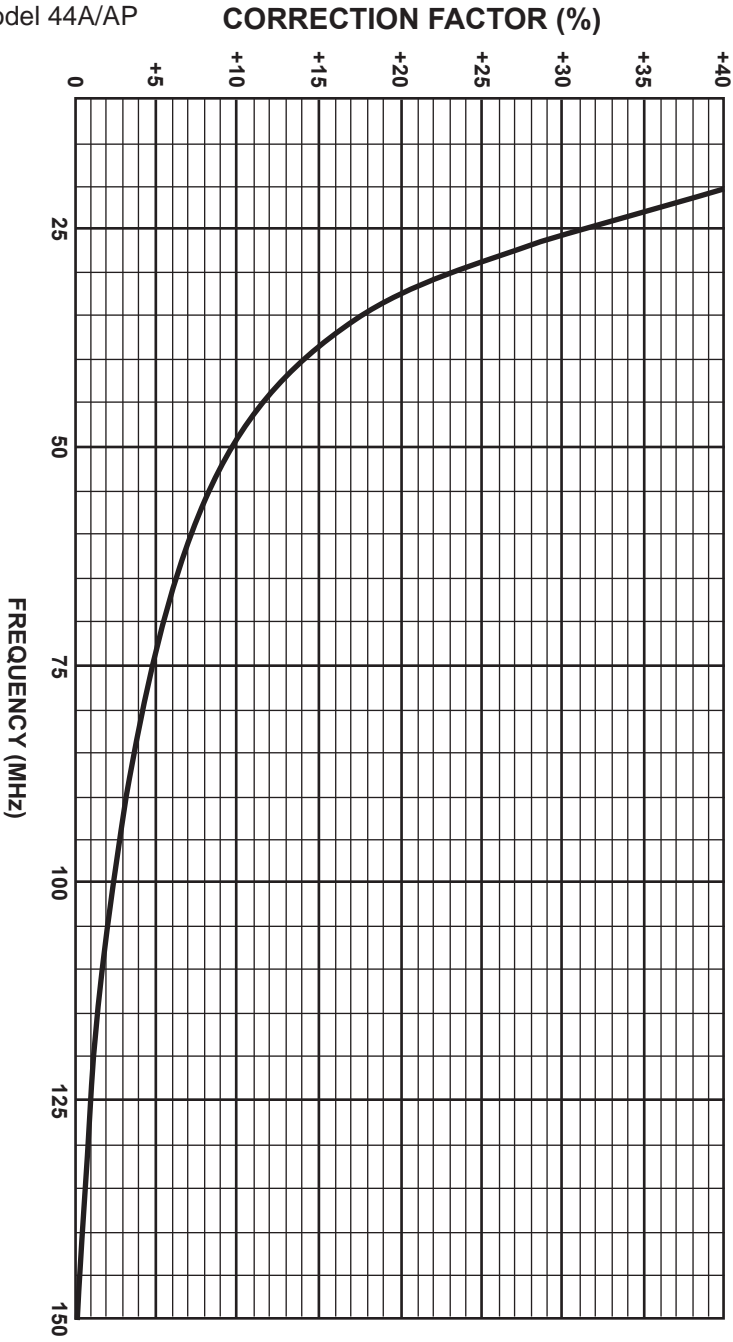

Figure 7-2: Model 44A/AP RF Wattmeter Correction Factor for Frequencies below 150 MHz
- 7.03** Figure 7-2 (pg. 18) shows the watt meter correction factor for power measurements below 150 MHz. For example: